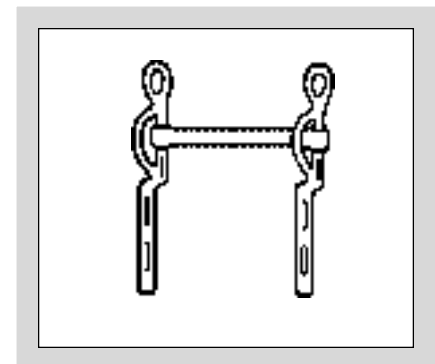

Figure 19. Elbow Bit.
- **Elbow Bit.** Elbow or military curb bit, smooth side (see Figure 19). Considered a practical bit for road or coach work.